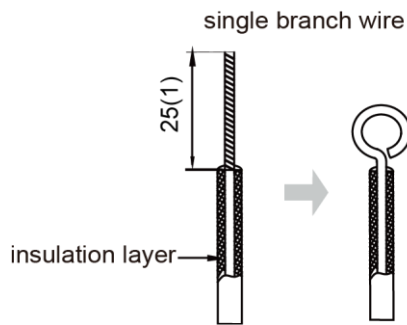

Fig.13
- (1) The connection of wire (as shown in fig.13)